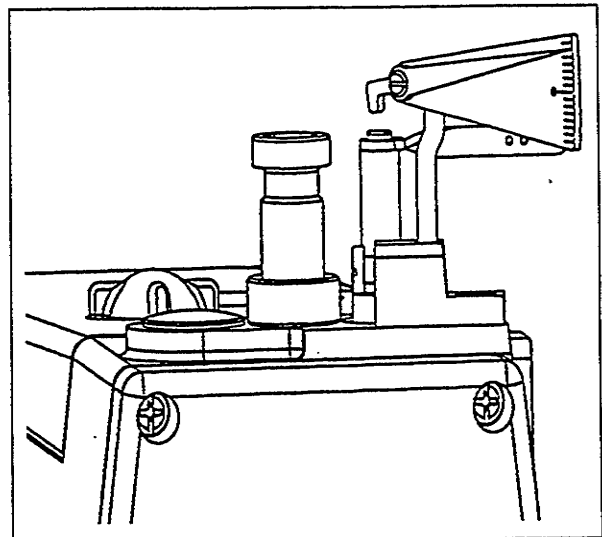

Fig. 3
- Turn machine in operating direction until allen wrench contacts throat plate, assemble indicator to top of machine as shown in (Fig. 3) and set indicator point to "0".